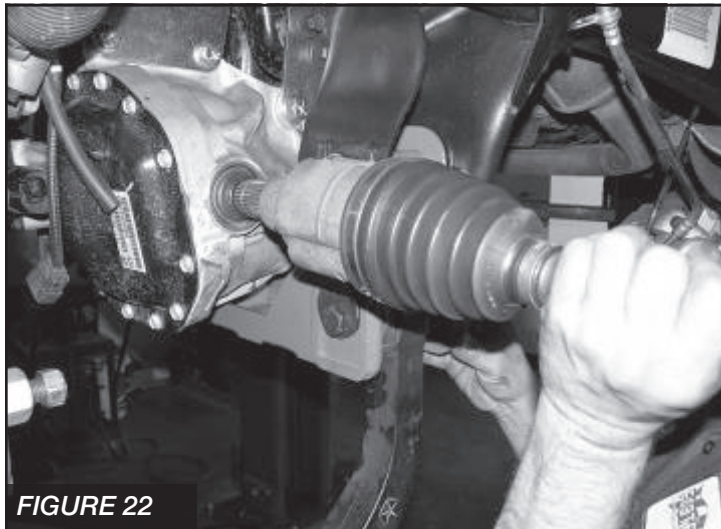

FIGURE 22
32. Install the C.V. half shaft back onto the differential by pushing the half shaft onto the splines until the snap ring locks. **SEE FIGURE 22**